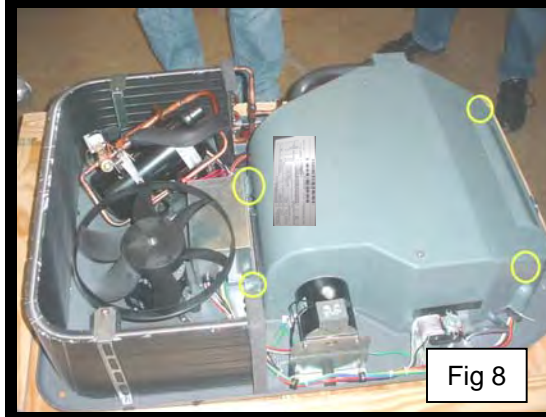

Fig 8
7. Reinstall inner cover using washer if mounting tab is cracked. Replace inner cover (fig 8) if tab is broken off. Remember to record model and serial number on the new cover as noted in step 2. Reinstall outer cover with four (4) original bolts and washers.